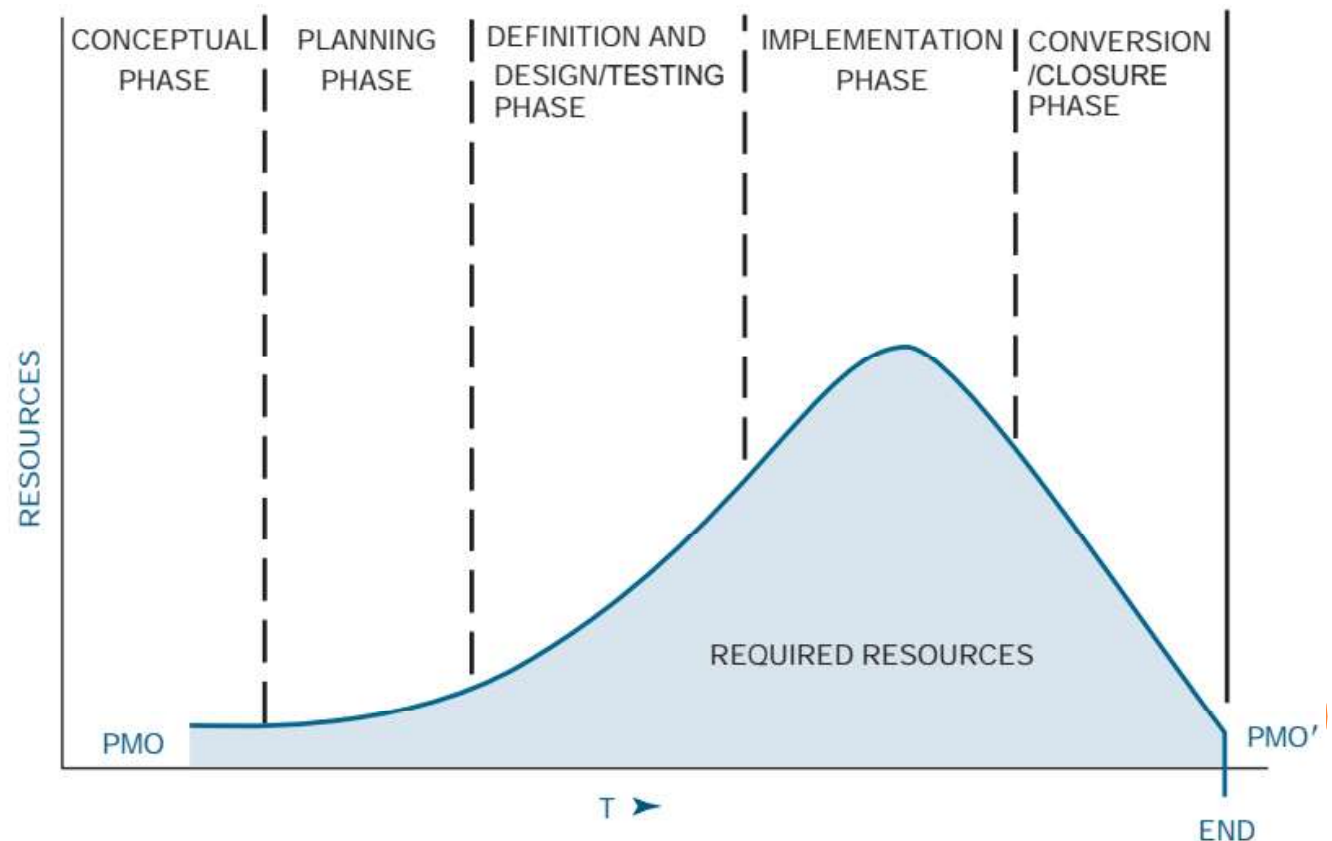

Fig 5.1: Definition of a Project Life Cycle
- The theoretical definitions of the life cycle phases of a system can be applied to a project, as shown in Fig 5.1. These phases include: